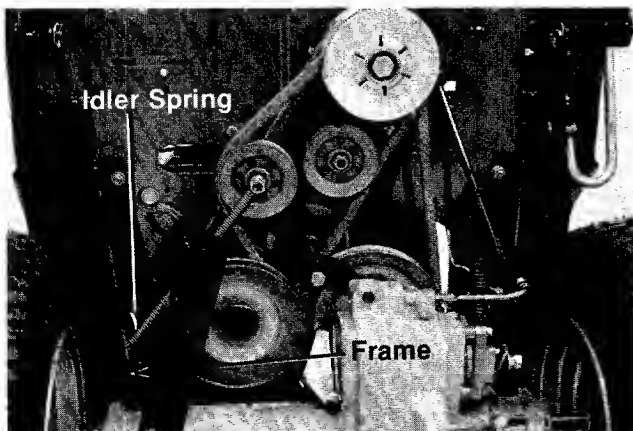

FIGURE 35.
2. Unhook the idler spring from the rider frame. See figure 35.